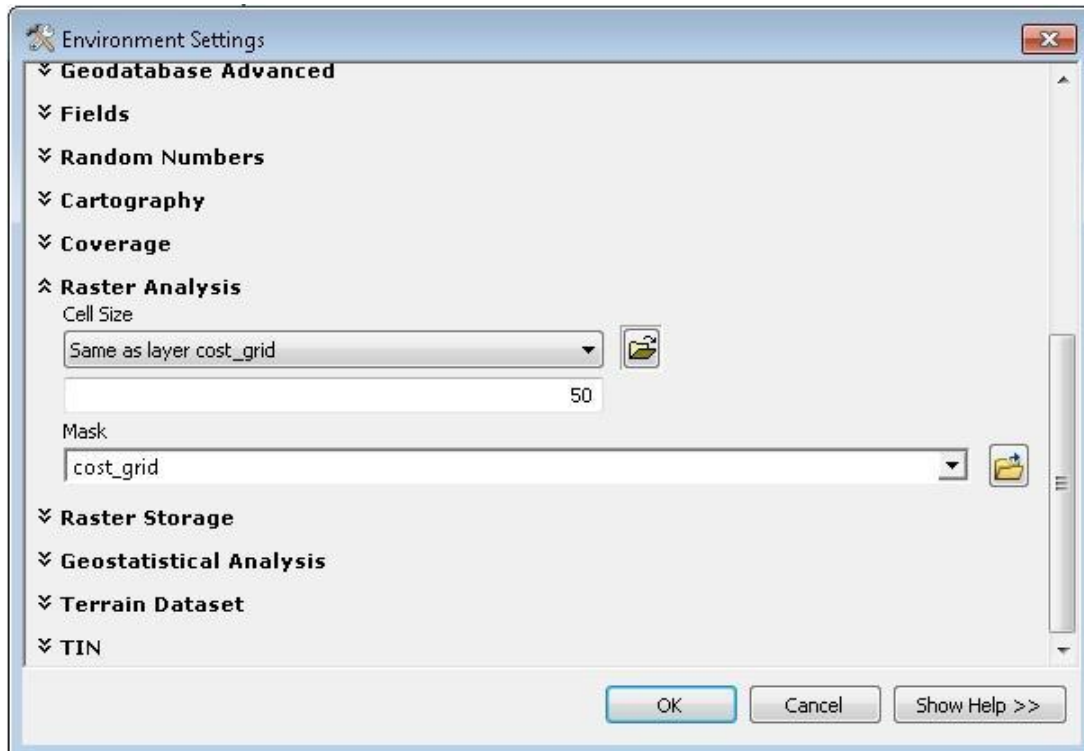

Figure 14. Setting the analysis environment
- 3 On the *Raster Analysis* tab, set *Cell Size* to *Same as layer cost_grid* (figure 14).